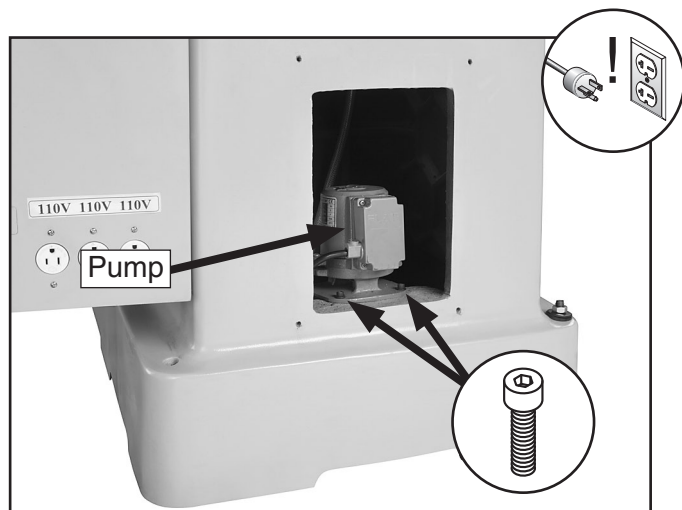

Figure 58. Coolant reservoir pump.
3. Remove the two pump mounting cap screws and move the pump out of the way (see **Figure 58**).